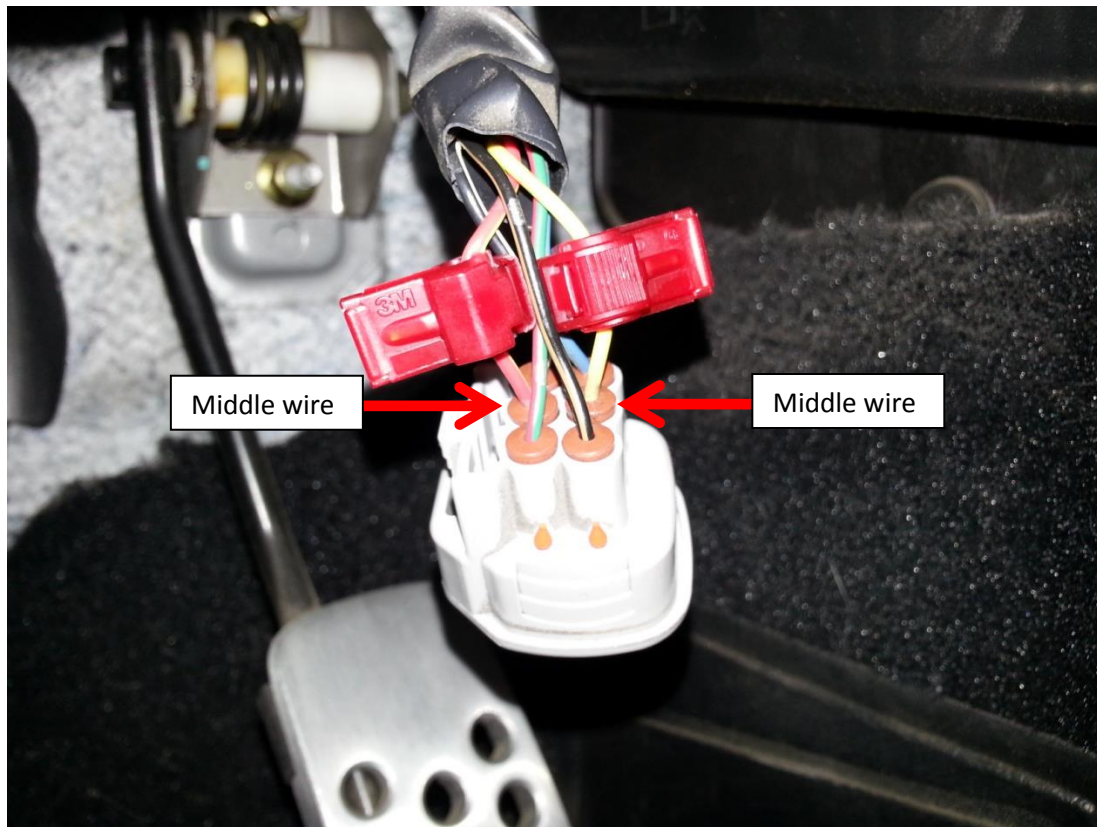

Figure 2 (Accelerator Pedal Position Sensor wire tabs placement)
2. Connect the AUTO-BLiP red wire and green wire, one each to the **yellow** and **red/yellow** wires on the APPS sensor (**Figure 2**).